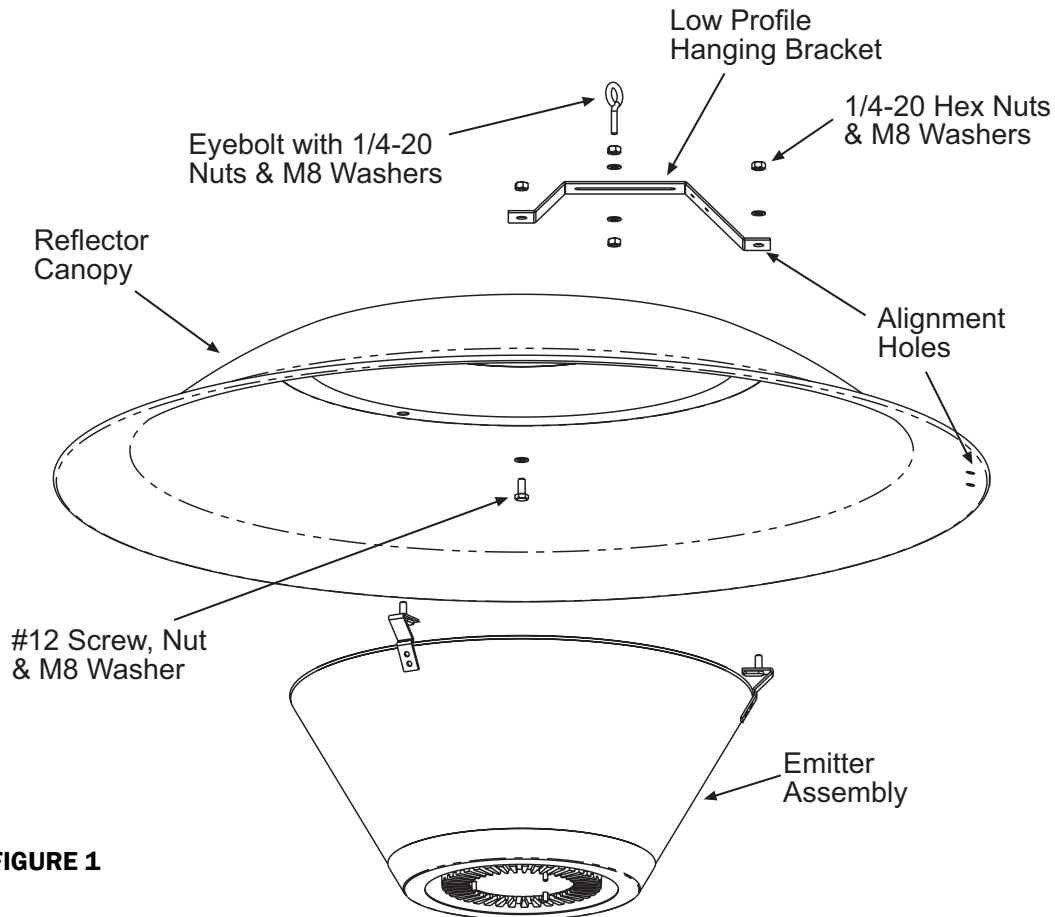

FIGURE 1
2. Place the Low Profile Hanging Bracket onto the Canopy as shown. Secure the bracket to the center of the Canopy with a screw, nut and washer from the Fastener Kit. Assemble the eyebolt to the hanging bracket with nuts and washers. Align the hanging bracket with the two (2) holes located at the edge of the Canopy. See Figure 1.